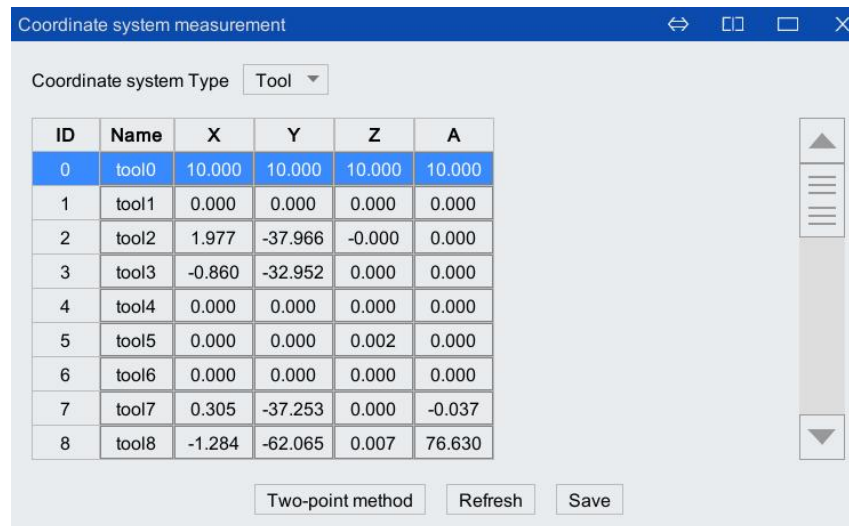

Figure 5-62 "Tool coordinate system" calibration complete interface
Step4. After the calibration is completed, return to the interface shown in Figure 5-62, you can see the specific values of X, Y, Z, and A after calibration.